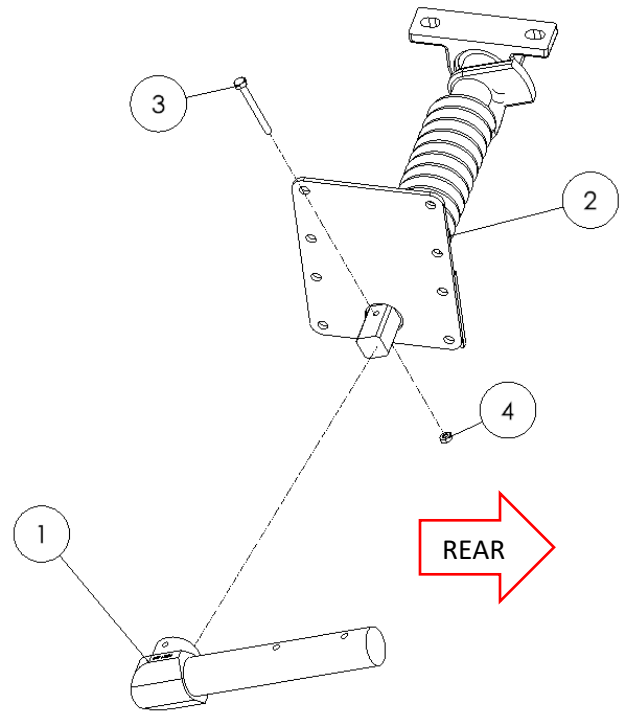

Figure 3.8
Attach the pivot casting using the supplied 1/4" x 2-1/2" hex bolt (3) and hex nut (4). (Figure 3.8)